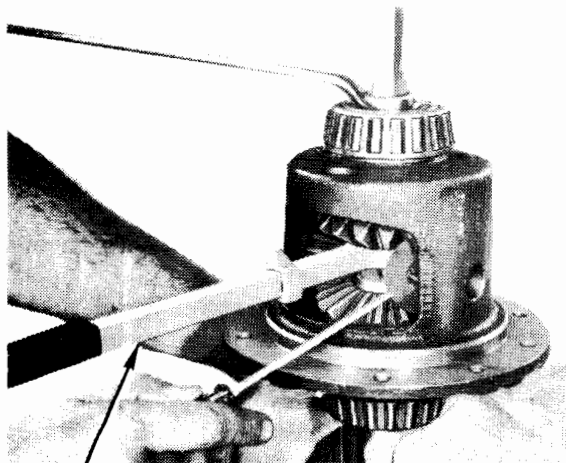

Fig. 10-77 Installing Pinion Gear Thrust Washers
(13) Pull on tool until handle hits gear. Remove pawl from between gear teeth and reposition handle and pawl. Repeat same operation until holes of both pinion gears are aligned with those of case.
(14) Lubricate both sides of pinion gear thrust washers with Trac-Lok lubricant.
(15) Apply torque to forcing screw to allow installation of thrust washers.
(16) Install washers in case. Use small screwdriver to push washers into place (fig. 10-77).